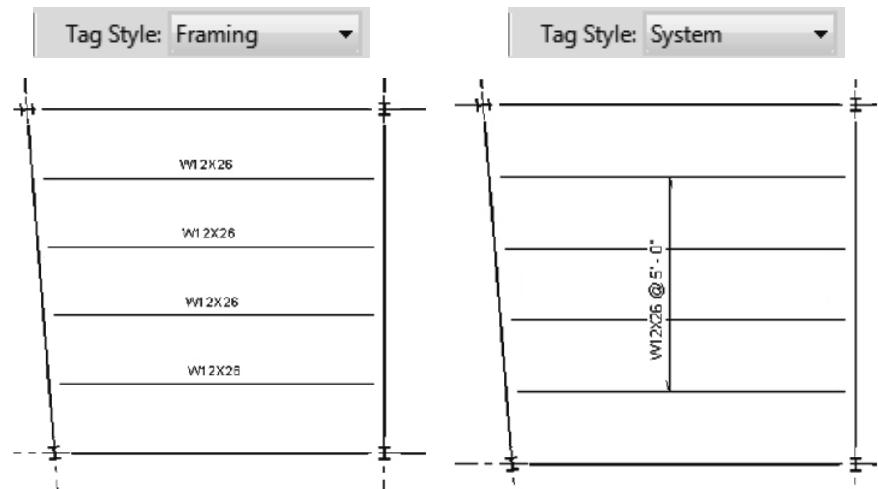

Figure 7-6
3. When  (Tag on Placement) is selected, in the Options Bar, set the *Tag Style* (as shown in Figure 7-6).